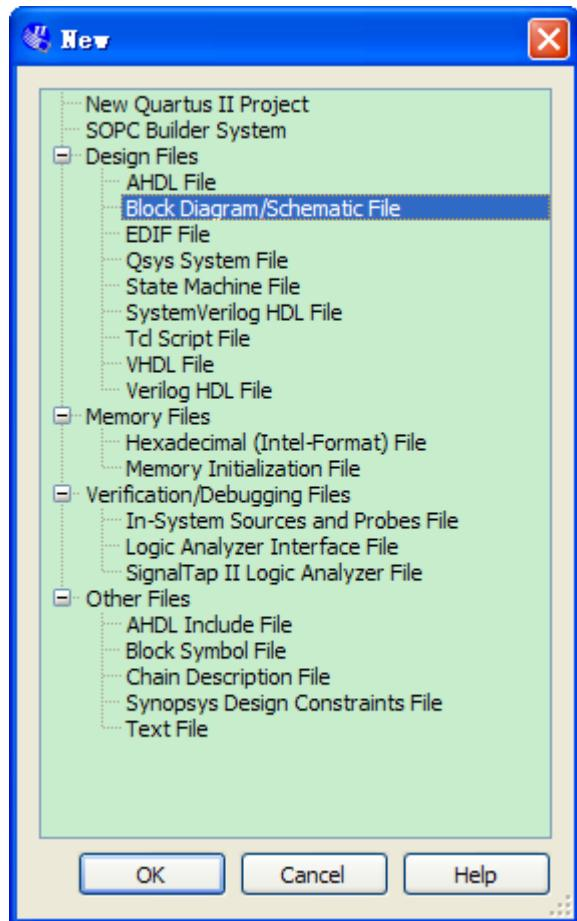

Figure 6-12 New BDF
1. Select File > New > Block Diagram/Schematic File (see **Figure 6-12** to create a new file, Block1.bdf, which you will save as the top-level design.